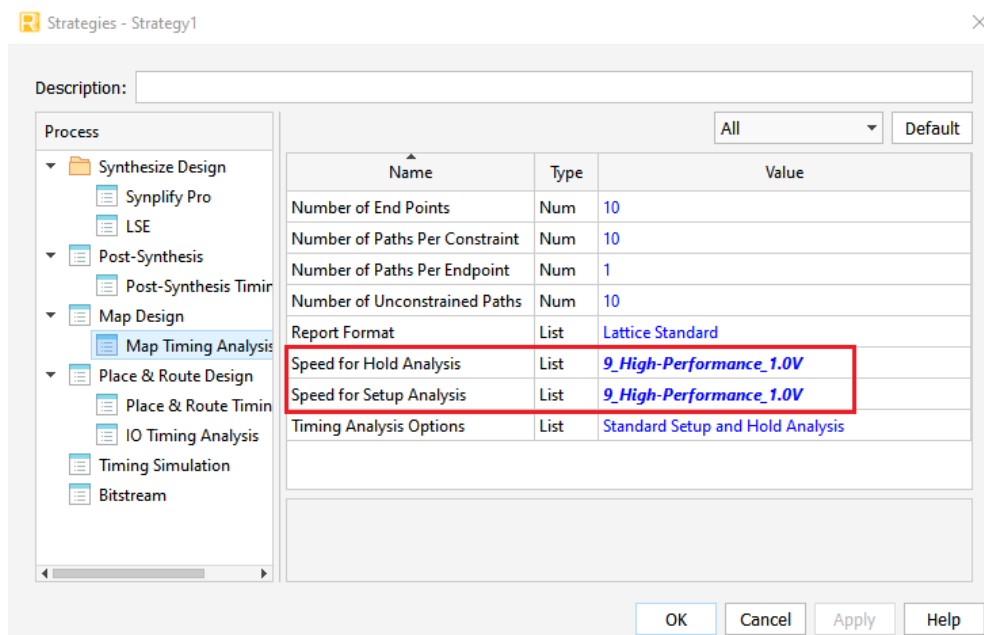

Figure C.61. MAP Analysis Setting for Main System Bit File Generation
11. Click the Strategy and go to **Map Design > Map Timing Analysis**. Select the highlighted settings as shown in Figure C.61.